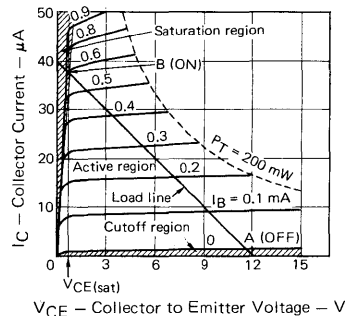
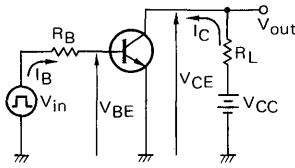

Fig. 21 Static Characteristics of Common-Emitter Output.
Fig. 22 Basic form of Switching Circuit
When employing transistors for switching, the common-emitter connection which has large current gain is most widely used. An example of the static output characteristics of this connection is shown in Fig. 21. The operating region of a transistor can be divided into the saturation region, cutoff region and active region. Transistor switching circuits are of the saturated type which employ the two regions of saturation and cutoff, and due to their simple circuit construction and small power consumption are widely used.
Fig. 22 is the basic form of a switching circuit of a common-emitter connected NPN transistor. The collector load line of this circuit is the line AB of Fig. 21. Following, based on Figs. 21 and 22 the operation of transistors in each region shall be described.
The cutoff region exists when both the emitter and collector junctions are reverse biased. In this state the operating point of the transistor rests at point A of the cutoff region in Fig. 21, the collector current takes a small value, and an extremely high
The active region, in a state where the emitter junction is forward biased and the collector junction reverse biased, is put to wide general use. In Fig. 22, when the potential of the base is made positive and a base current is made to flow, the operating point of the transistor will move along the load line from point A into the active region, and the speed of transition of the operating point across the active region is determined by the gain-bandwidth product f_T .
In Fig. 22, when the base potential is made positive and an ample base current ($I_B < I_C/h_{FE}$) is made to
In the definition of the switching time of transistors the quantities shown in waveform (C) of Fig. 24, which appears in the output when an input waveform as shown in Fig. 24 (A) is applied to the circuit of Fig. 22, are employed. These quantities are defined as follows.